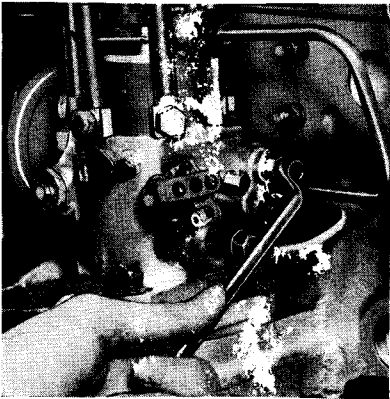
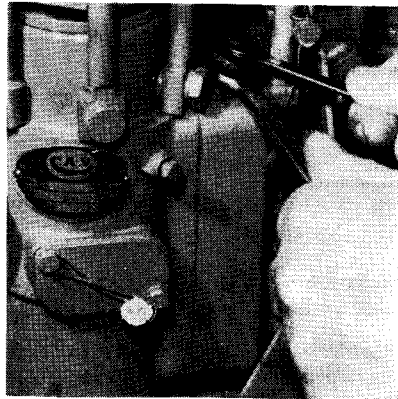

Fig. 7
Fig. 8
1. Slacken air vent valve on side of control gear housing (see fig. 7). For engines with mechanical governor, see fig. 8.